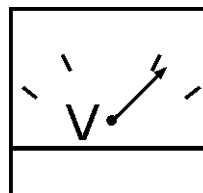
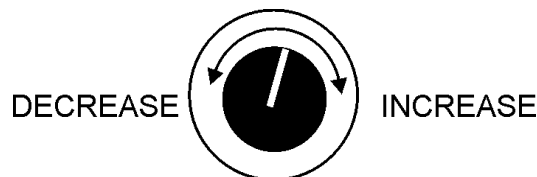

Figure 49. Voltmeter
Figure 50. Voltage Adjust Control Knob
13. The generator's AC-voltmeter (Figure 49) will display the generator's output in **VOLTS**. If the voltage is not within the specified tolerance, use the voltage adjustment control knob (Figure 50) to increase or decrease the desired voltage.